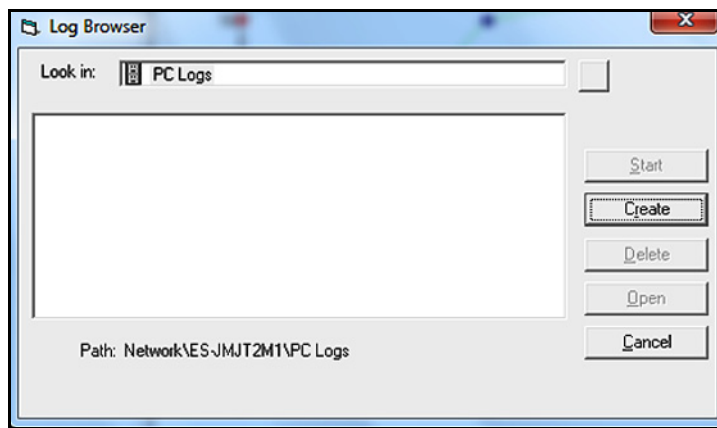

Figure 82: Create a PC Log
4. Double-click *PC logs* to advance to the dialog box shown in *Figure 82* below.
5. At the dialog box shown in *Figure 82* on page 66, click [Create] button to create a new meter log.